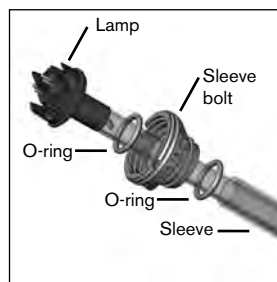

Figure 7
1. Each lamp and sleeve comes with two new O-rings. Place the new O-rings and the original sleeve bolt on the lamp sleeve as per Figure 7. **Caution: Do not lubricate any of the O-rings.**